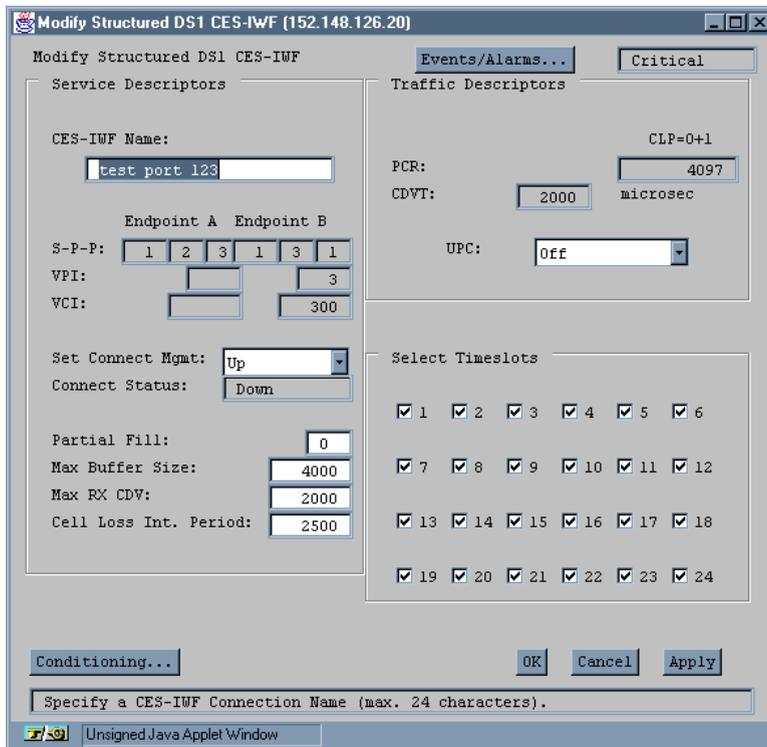
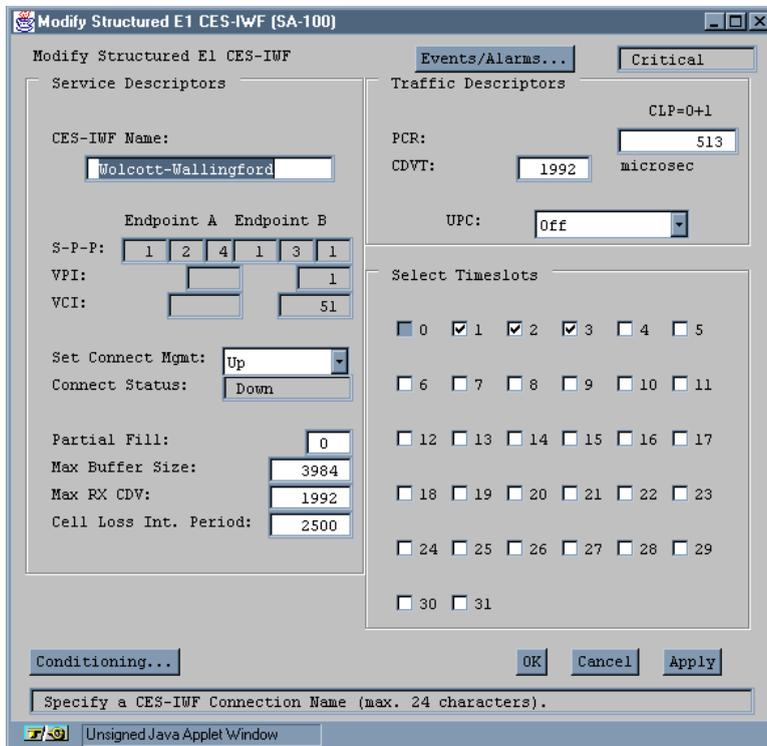

Figure 5-29. Modify Structured DS1 CES-IWF Window
Figure 5-30. Modify Structured E1 CES-IWF Window
- If you set CBR Service to Structured, the Modify Structured DS1 CES-IWF window (see Figure 5-29) appears if you are working on a DS1 port; if you are working on an E1 port, the Modify Structured E1 CES-IWF window appears (see Figure 5-30).